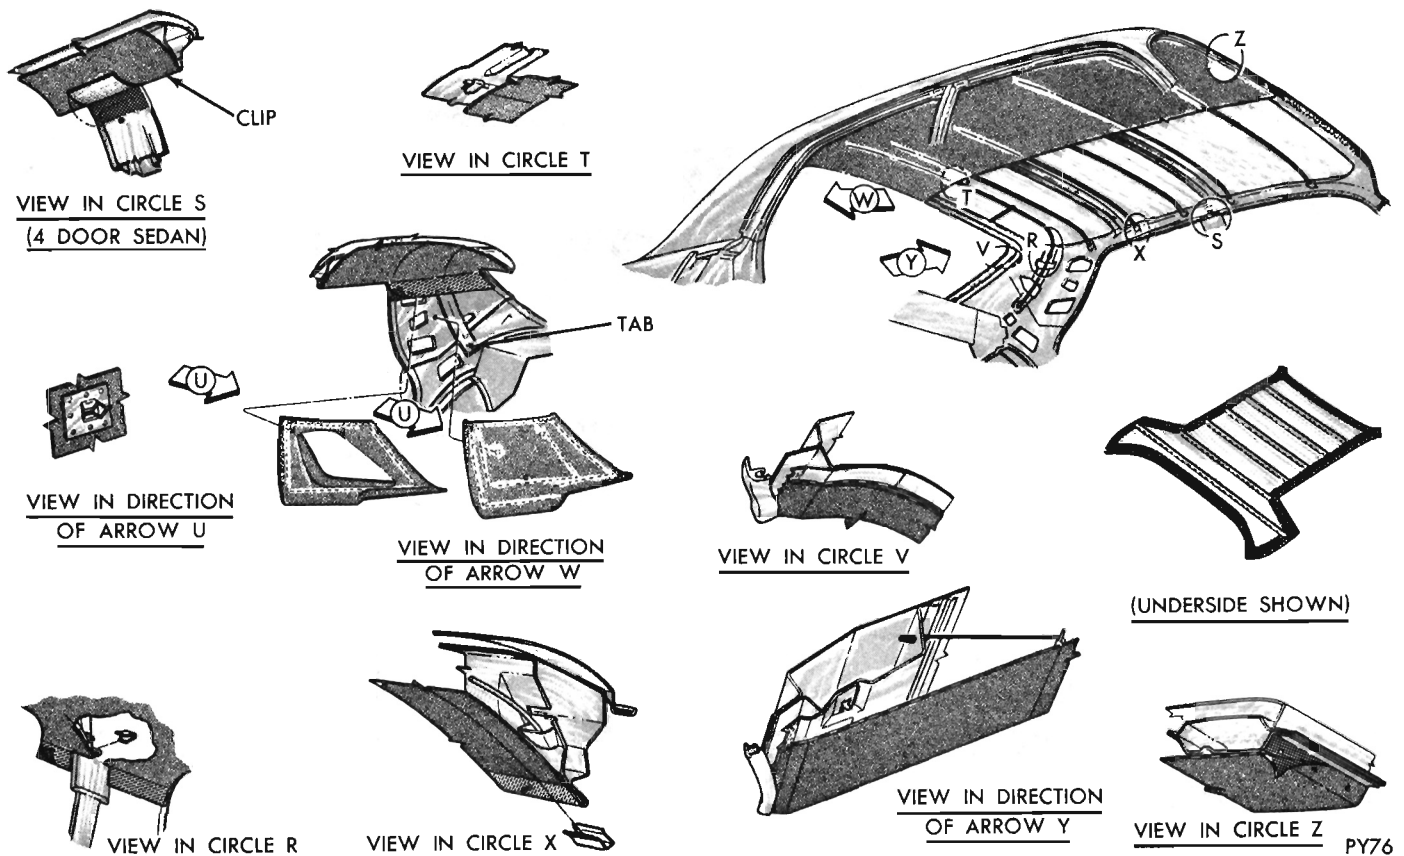

Fig. 12 - Soft Headlining
(6) Remove listing wires from side rail retainers and support wire from rear listing wire (Figs. 12 and 13).
(7) Remove all foreign material and cement from windshield header area and rear window opening areas.
(8) Remove listing wires from headlining and insert in comparable listing of new liner.